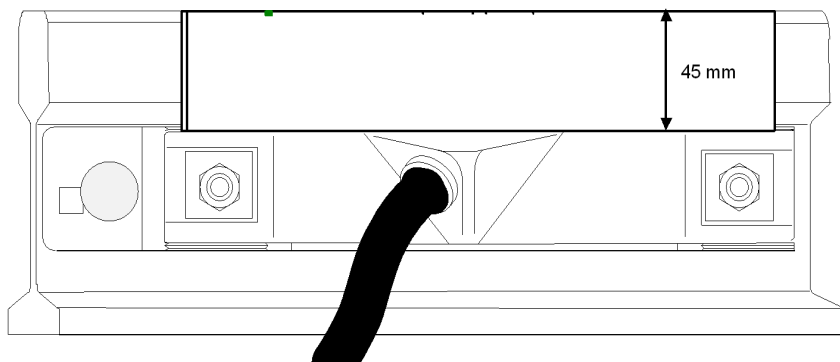

Figure 1 – Gauge position to check the WSD height
1.6 Check that the distance from the top of the rail head and the top surface of the wheel sensor is 45mm (tolerance +0mm/-2mm) using the adjustment gauge as shown in figure 1. If the distance is outside of this tolerance, adjust the height of the wheel sensor to the correct value.